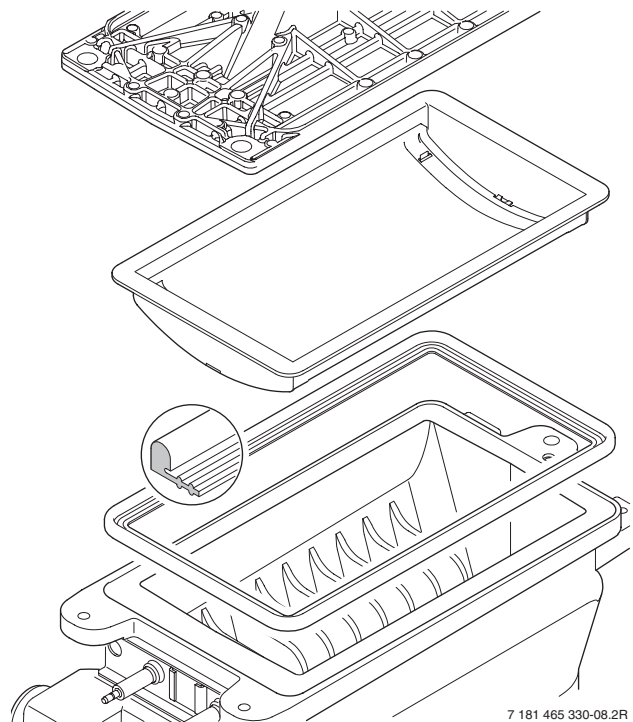

Fig. 57
- Remove the burner skin and clean components. Do not use a wire brush. Refer to fig. 57.